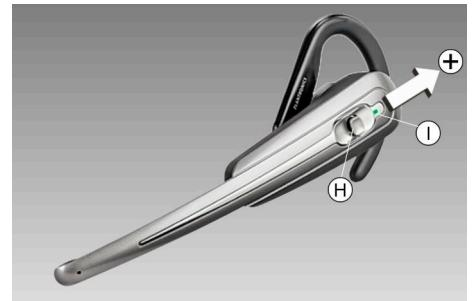

Fig. 67: Headset
Press the call control button (H) on master headset within five seconds to accept the conferencing request (see Fig. 67).